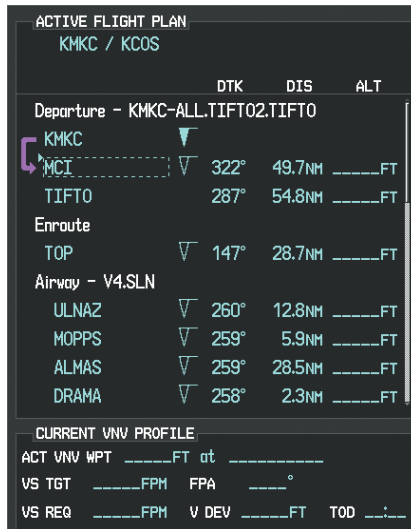

Figure 5-120 V4 is Loaded in the Flight Plan
- l) V4 is now loaded into the flight plan as shown in Figure 5-120.